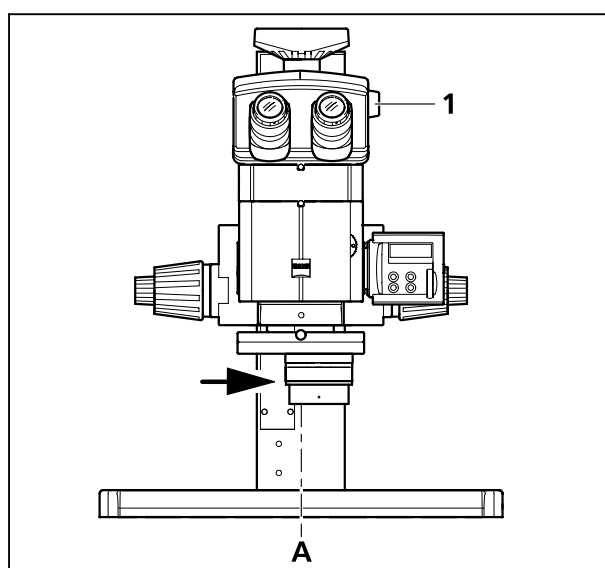

Fig. 49 Objective slider S/doc with ergo phototube
for vertical and monocular imaging, via the right light path, of a specimen detail 12 mm to the right from position **A** (Fig. 49).
- Turn the lever (Fig. 49/1) to the rear position to deflect the light ray to the camera port.